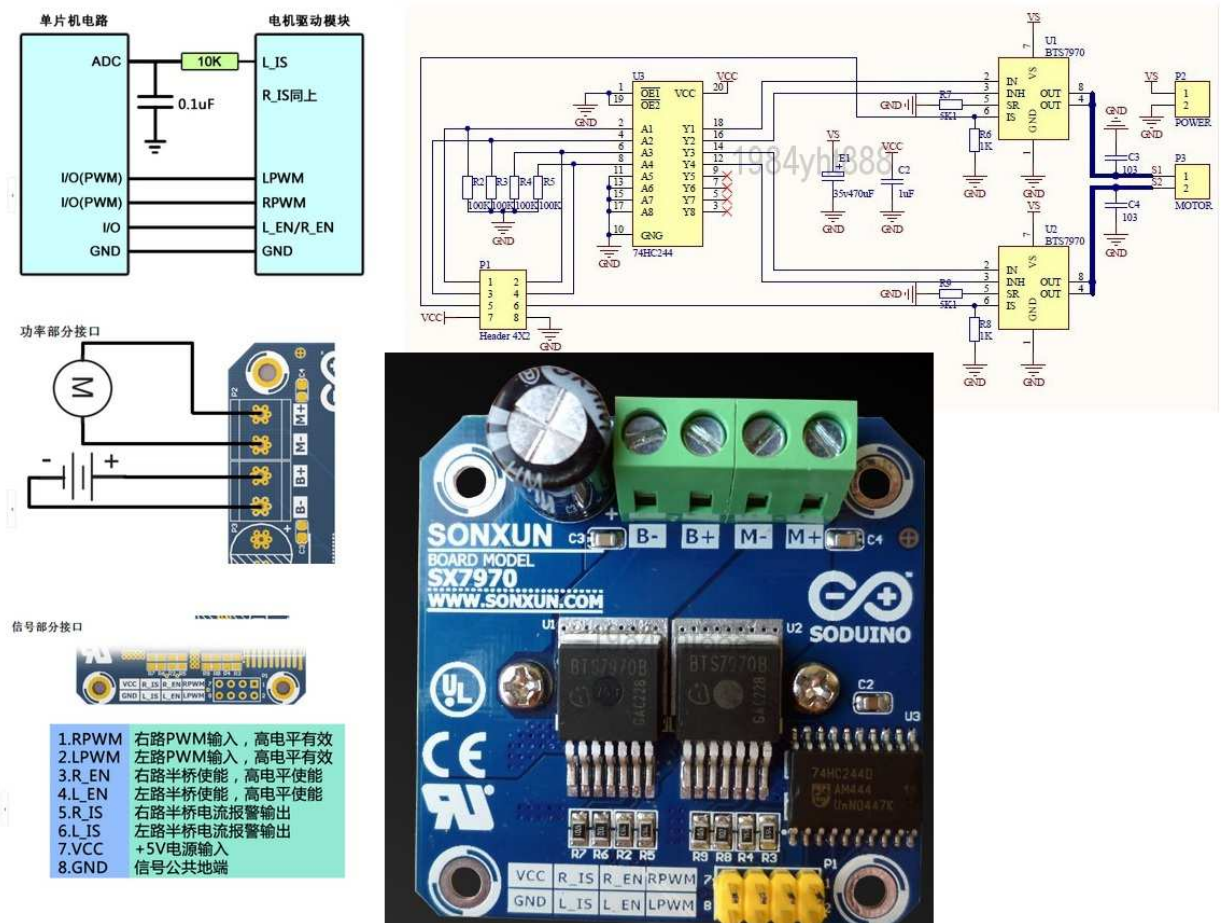

Figure 2: Documentation for the electronic H-Bridge
**Electronic:** Two Infineon BTS7970 Half bridge Integrated Circuits are used in an H-Bridge module as shown in Fig. 2.